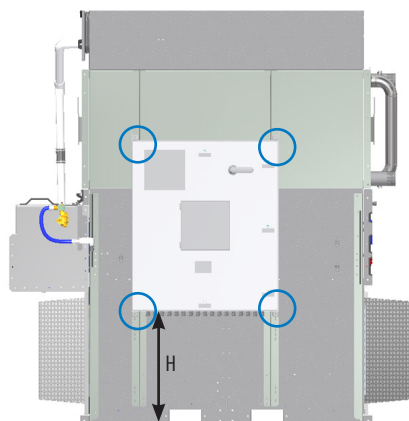

Figure 9c. Control Panel Mounting Height
2. Attach the control panel using the mounting holes at each corner. Ensure the dimension from the bottom of control panel to the bottom of unit is correct following the Table 4 “H” dimension (see Figure 9c).